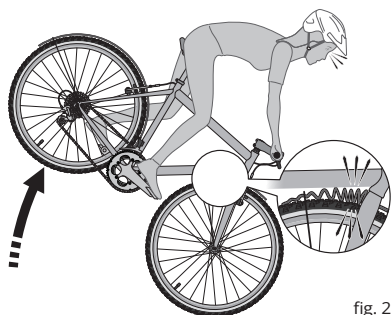

fig. 2
- **Any object that unexpectedly and abruptly stops the rotation of the front wheel can cause the bike and rider to pitch forward (fig. 2), which can result in serious injury or death.**